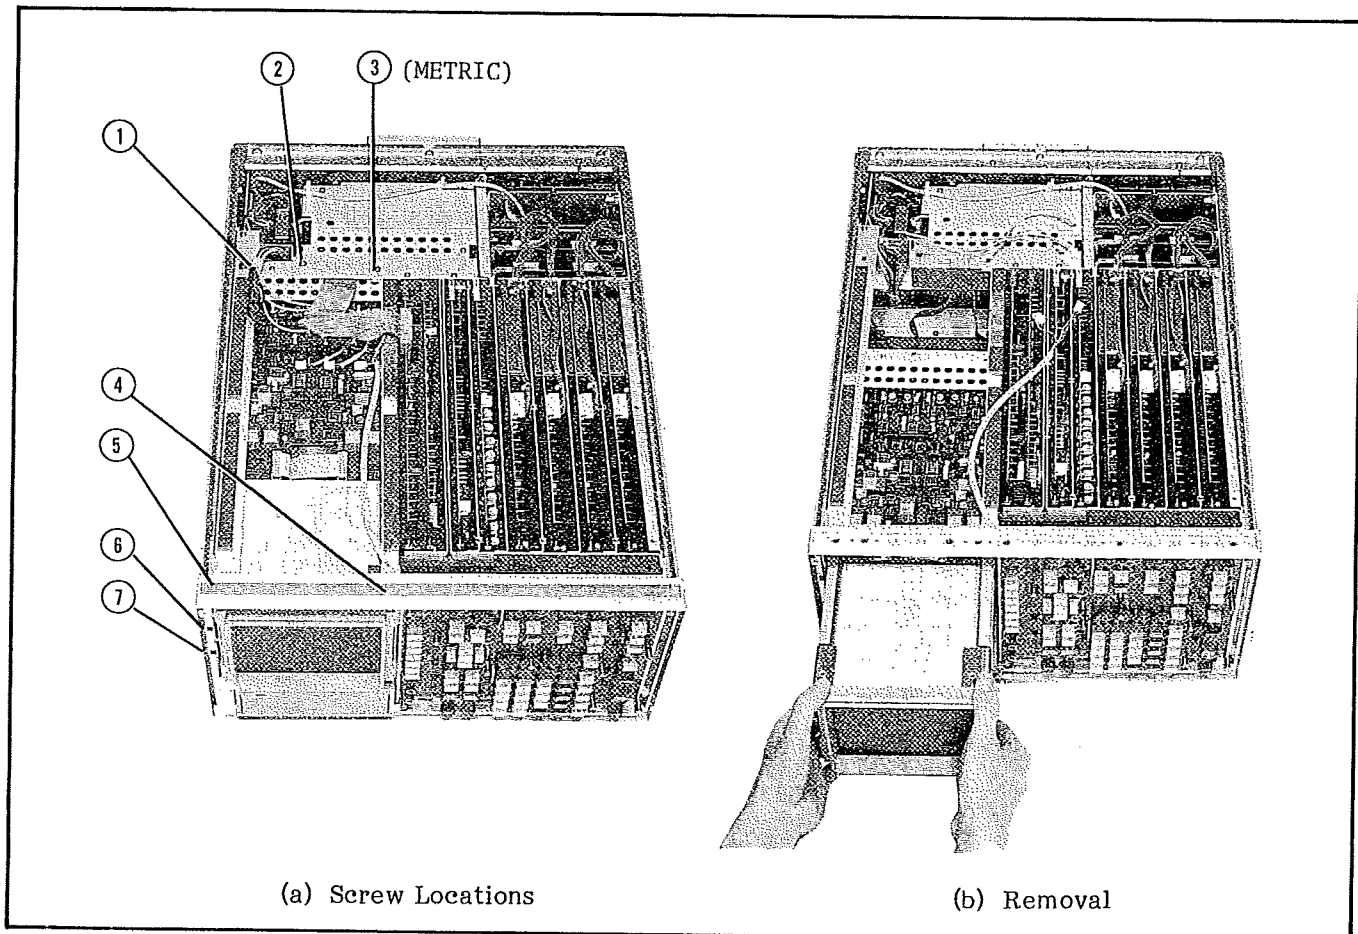

Figure 8-6. 1345A Removal.
- (1) Remove the top cover.
- (2) Remove the large shield plate.
- (3) Remove the front panel (refer to paragraph 8-25).
- (4) Remove screws ①, ② and ③. Refer to Figure 8-6 (a).
- (5) Carefully remove the plastic trim strip from the top of the front frame (use a screwdriver).
- (6) Remove the adhesive-backed trim strip from the left side of the front frame.
- (7) Remove screws ④, ⑤, ⑥ and ⑦. Refer to Figure 8-6 (a).
- (8) Disconnect the blue flat-cable from the A1 board, and disconnect the focus/intensity control cable and the X, Y, and Z analog output cables from the 1345A.
- (9) Carefully slide the 1345A about halfway out of the 4145A as shown in Figure 8-6 (b).
- (10) Disconnect the power cable connected to the rear of the 1345A and then slide the 1345A completely out of the 4145A.